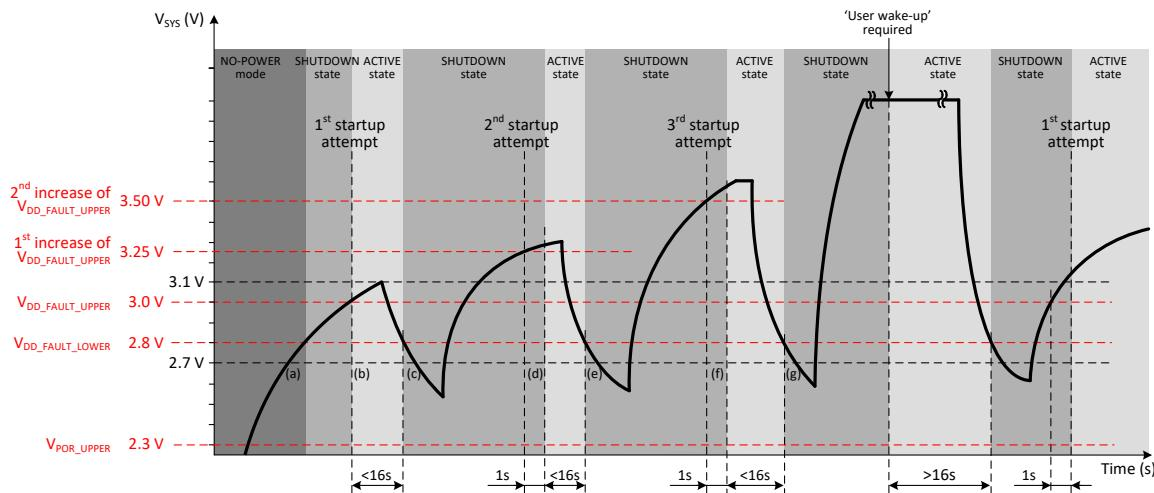

Figure 13: VDD_START Faults
The DA9063L VDD_START feature prevents endless looping of false-starts in a weakly-powered system. VDD_START limits the number of automatic restart attempts to three. With reference to Figure 13:
- Figure 13\(a\): the PMIC starts from NO-POWER mode.
- Figure 13\(b\): First startup attempt. The PMIC transitions to the ACTIVE state when V_{SYS} rises above $V_{DD_FAULT_UPPER}$.
- Figure 13\(c\): If, during the first startup attempt, the V_{SYS} supply drops below $V_{DD_FAULT_LOWER}$ for more than 100 ms, the PMIC shuts down to the SHUTDOWN state. $V_{DD_FAULT_UPPER}$ is increased automatically by 250 mV. However, the increased $V_{DD_FAULT_UPPER}$ is limited to a maximum of 3.70 V.
- Figure 13\(d\): Second startup attempt. If V_{SYS} rises above the new $V_{DD_FAULT_UPPER}$ threshold, then the PMIC will power-up to the ACTIVE state.
- Figure 13\(e\): If, during the second startup attempt, the V_{SYS} supply drops below $V_{DD_FAULT_LOWER}$ for more than 100 ms, the PMIC shuts down to the SHUTDOWN state. $V_{DD_FAULT_UPPER}$ is increased automatically by a further 250 mV (500 mV above its original setting). However, the increased $V_{DD_FAULT_UPPER}$ is limited to a maximum of 3.70 V.
- Figure 13\(f\): Third startup attempt. If V_{SYS} rises above the new $V_{DD_FAULT_UPPER}$ threshold, then the PMIC will power-up to the ACTIVE state.
- Figure 13(g): If, during the third startup attempt, the V_{SYS} supply drops below $V_{DD_FAULT_LOWER}$ for more than 100 ms, the PMIC shuts down. From then on, AUTO_BOOT and wake-up from non-user events are temporarily disabled. 'User events' are defined in Table 30.